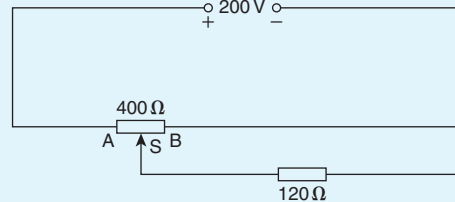

Figure 5.44
- For the circuit shown in Fig. 5.44, AS is $\frac{3}{5}$ of AB. Determine the voltage across the $120\ \Omega$